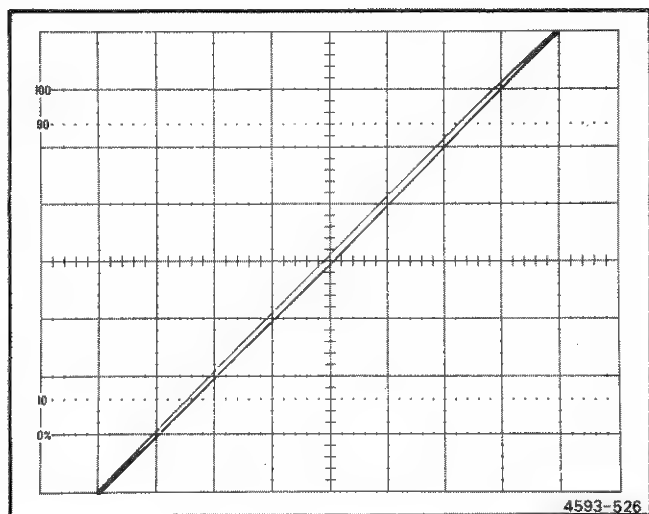

Figure 5-1. Typical display when checking X-Y phase compensation.
- CHECK**—crt display for a Lissajous display with separation of 0.28 division or less (indicates 2° or less phase shift; see Figure 5-1).